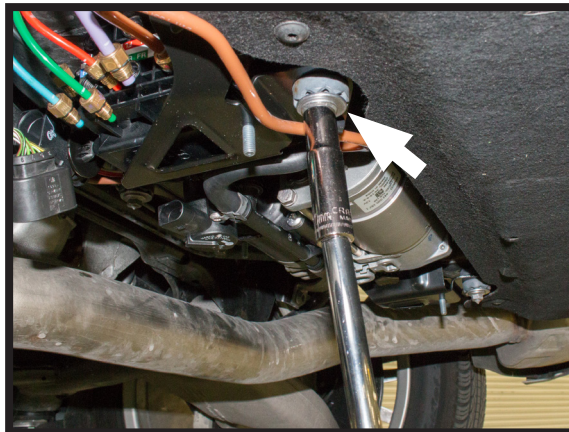

FIGURE 9
8. REMOVE THE FOUR (4) OUTER MOUNTING NUTS THAT SECURE THE COMPRESSOR BRACKET ASSEMBLY TO THE VEHICLE. (FIGURE 9)